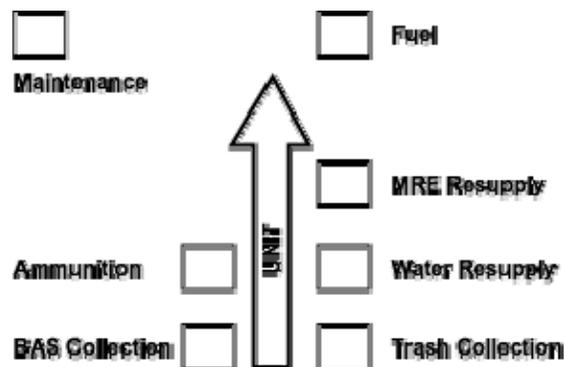

Figure 5-4. Rapid Resupply Point.
- (1) The Bn Log Train establishes a drive-through RRP. *See Figure 5-4.*
- (2) RRP's will include: